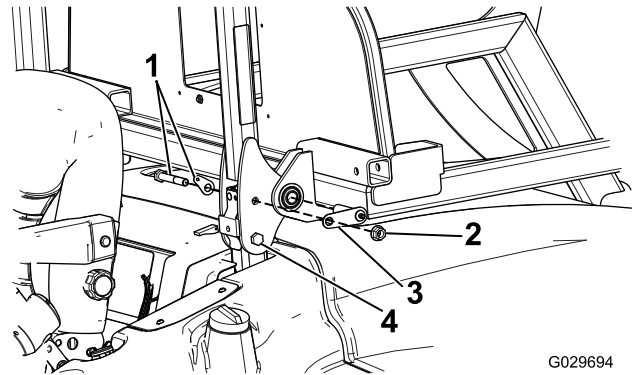

Figure 4
2. On the other side of the roll bar, install a bolt and nut supplied in the kit into the holes instead of the pin (Figure 4).
4. Remove the pivot bolt, tabbed washer, and nut from the roll bar; install the tabbed washer and pivot bolt from the inside of the bar, but do not install the nut yet (Figure 4).
5. Move the carrier frame up to the roll bar bracket and secure it using a tabbed pin through the rear hole in the bracket (Figure 4).
6. Secure the pivot bolt and tabbed pin using the nut you removed previously (Figure 4).
5. Remove the nut and tabbed pins from each side of the roll bar (Figure 4).